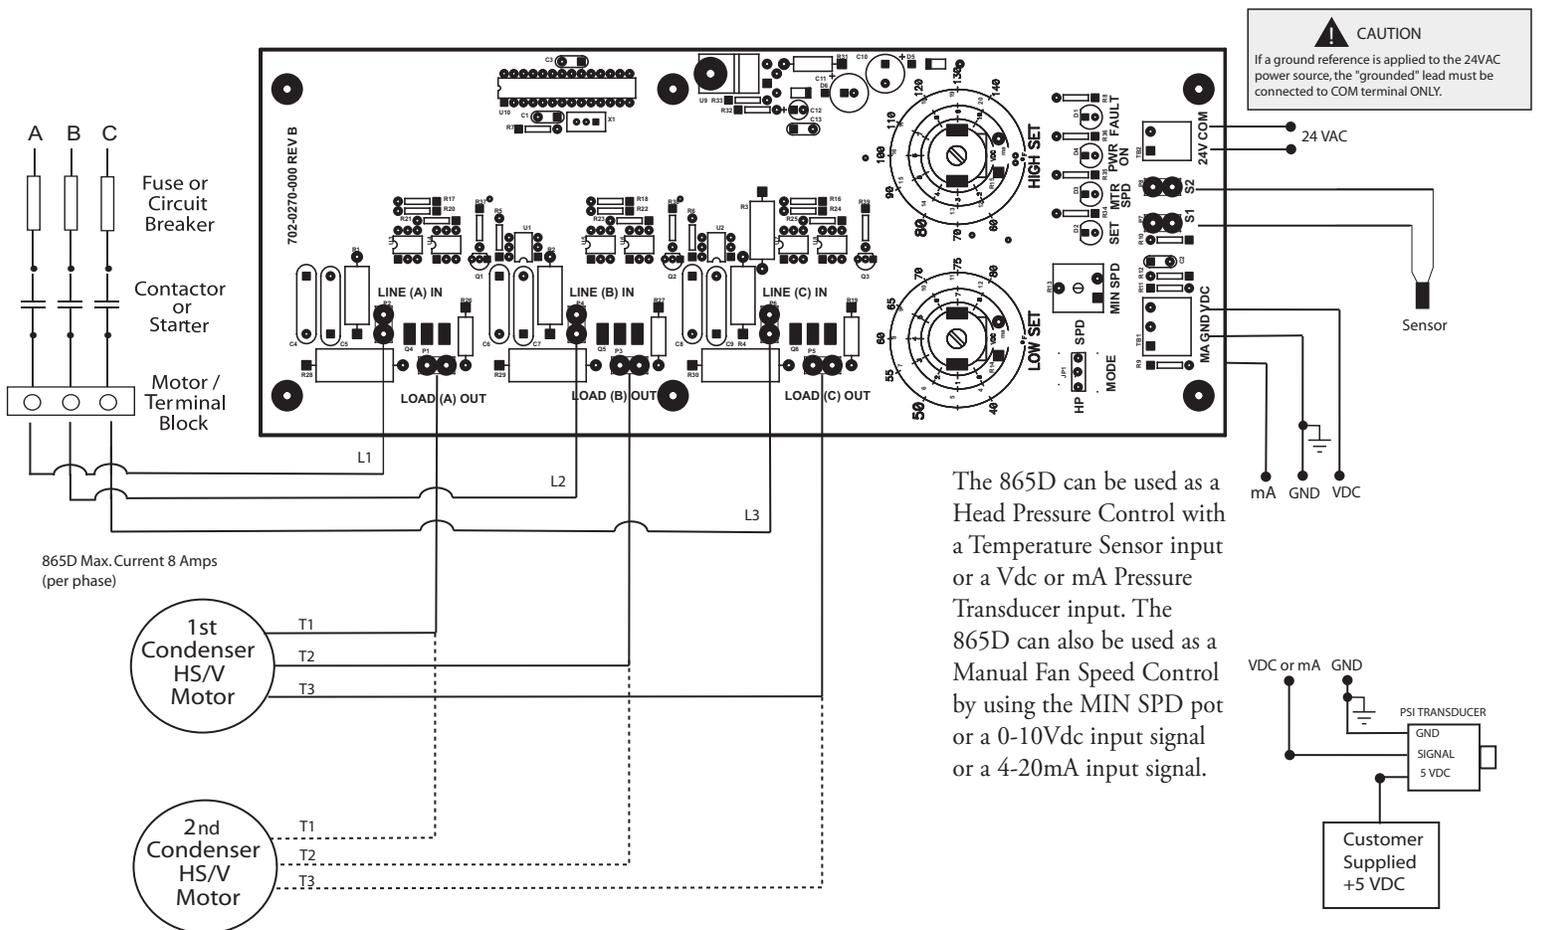

Figure 2 - Field Wiring Diagram
Step 4 Install Line and Low voltage wiring along with Sensor wiring, as shown in **Figure 2, Field Wiring Diagram** (on page 5) and the instructions below.
- B. Field furnish three (3) 90°C wires, of appropriate size for the application, from condenser fan motor contactor to 865D's L1, L2 and L3 terminals.